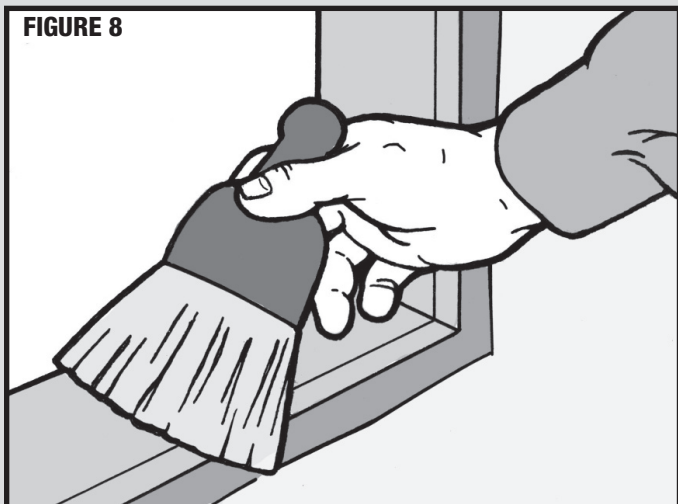

FIGURE 8
Step 3. Ensure sill is dry, structurally sound and free of all dirt and dust. Use a wisk broom to brush off sill. This will ensure quality seal to the substrate. (Figure 8)